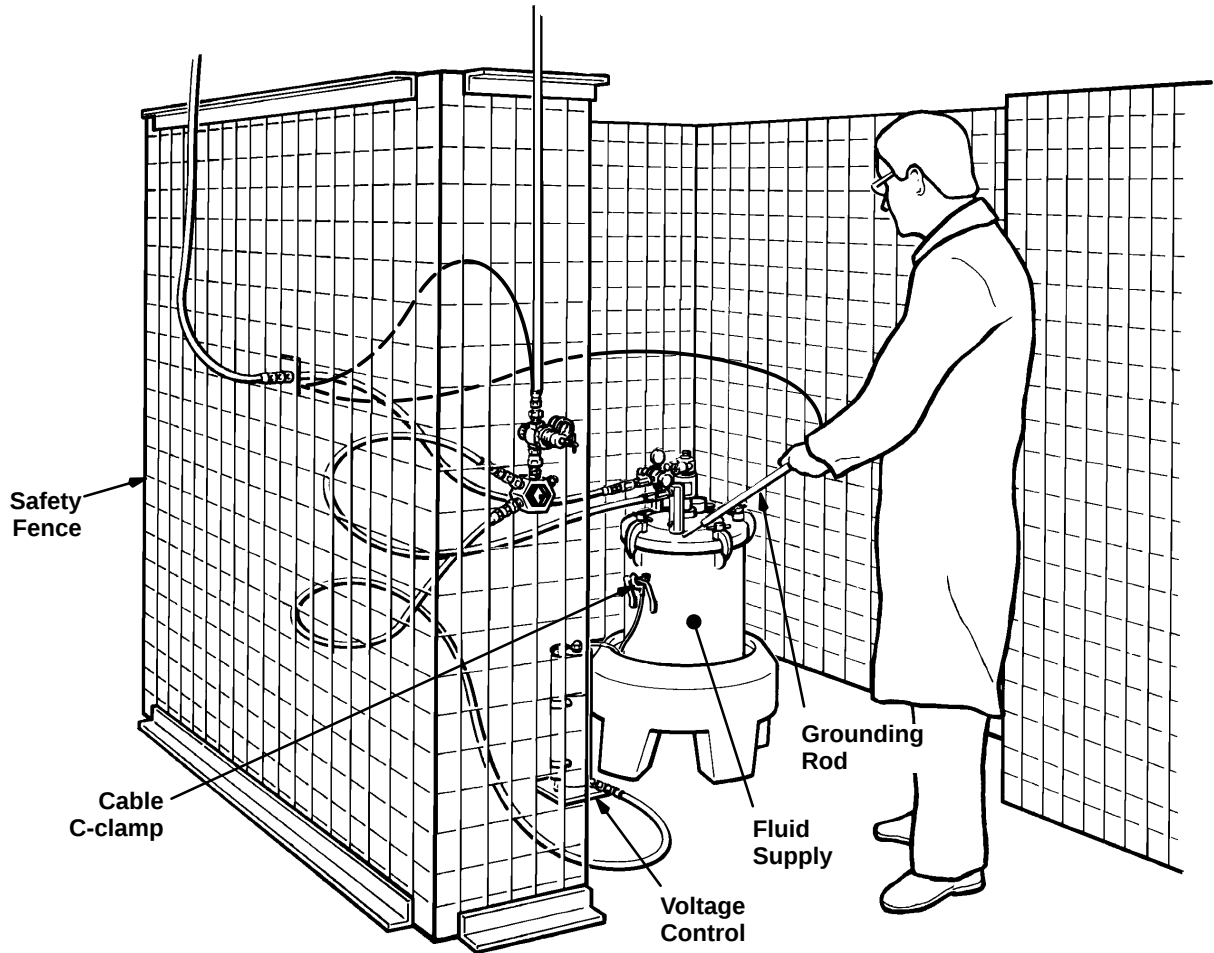

Fig 10
3. Enter the safety fence area and remove the grounding rod from the fence. Grasp the grounding rod by the hook end of the handle. Touch the exposed wire of the grounding rod to a metal surface of the fluid source; See Fig 10, page 13. If an arc is detected, correct the problem before doing anything further with the system. See **TROUBLESHOOTING** on page 21.
2. Disconnect the cable c-clamp from the fluid supply. Refer to Fig 10.
1. Place the fluid supply on the isolation stand. Refer to Fig 10.